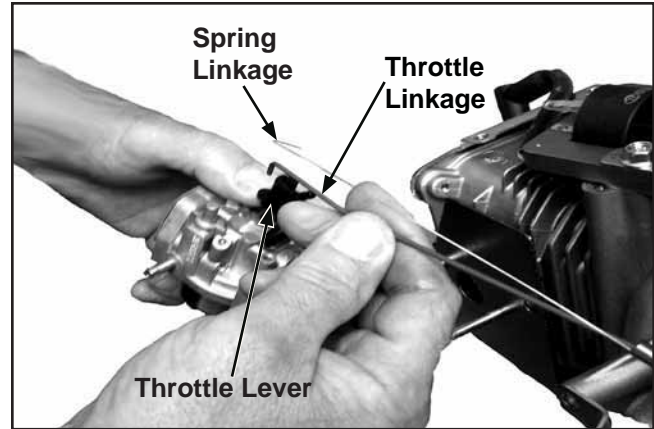

Figure 10-44. Installing Throttle Linkage.
1. With the carburetor not yet mounted on the studs, rotate it slightly to allow connection of the throttle linkage and linkage spring to the throttle lever. See Figure 10-44.
2. Connect the throttle linkage and linkage spring to the throttle lever on the carburetor. See Figure 10-44.